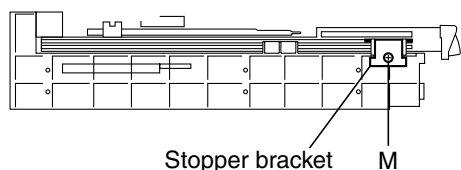

Fig.19
■ Replacing the CD tray rotor belt of the CD changer, and removing the motor (See Fig.19 and 20)